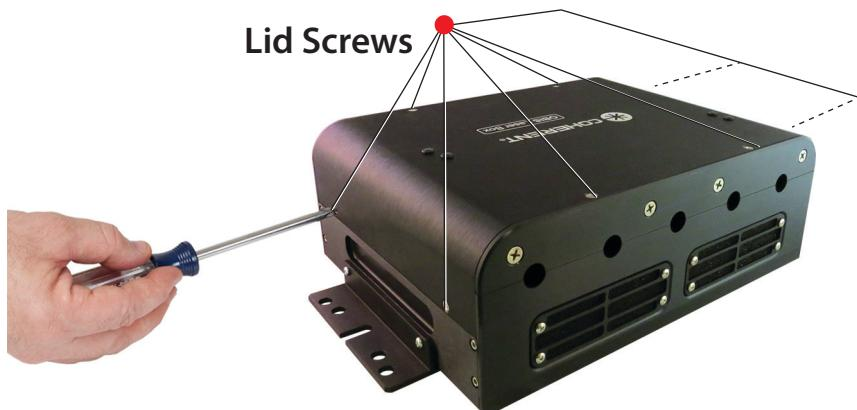

Figure 4-15. OBIS Laser Box: Remove the Laser Box Lid
2. Remove the eight lid screws shown in Figure 4-15 and take off the lid.